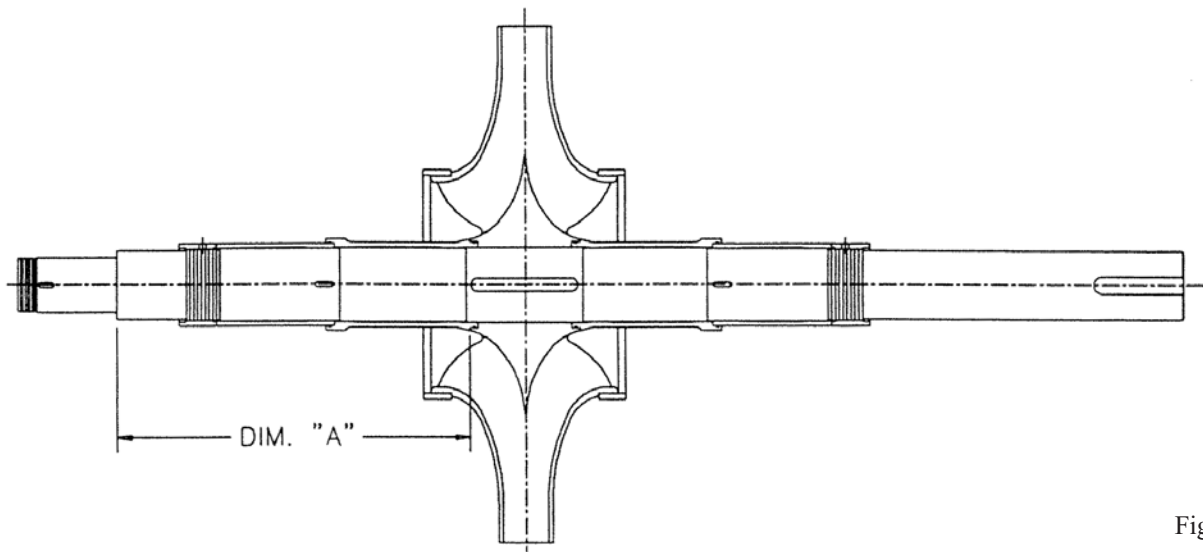

Fig. 14
a number of times. The weight of the impeller will force it and the shaft sleeves off. If this does not work, apply a light press. Before removing impeller, record Dimension "A" from impeller hub face to thrust bearing shoulder (see Fig. 14) to facilitate assembly.
2. Install impeller key on shaft. Using Dimension "A" recorded when dismantling, (See Fig. 14) install impeller on shaft.